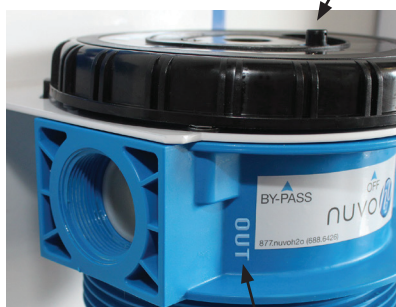

FIG. 3
- Remove shrink wrap material from the cartridge and packing foam ring, then insert Cartridge into Housing Body. Make sure holes on side of cartridge are located at the top. See FIG. 3